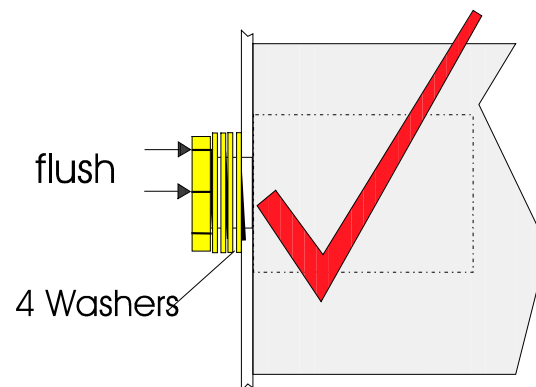

Figure 14
2. Put the two washers (CM+7.0205.022.24) on the bolt of the capacitor as shown in Figure 14.